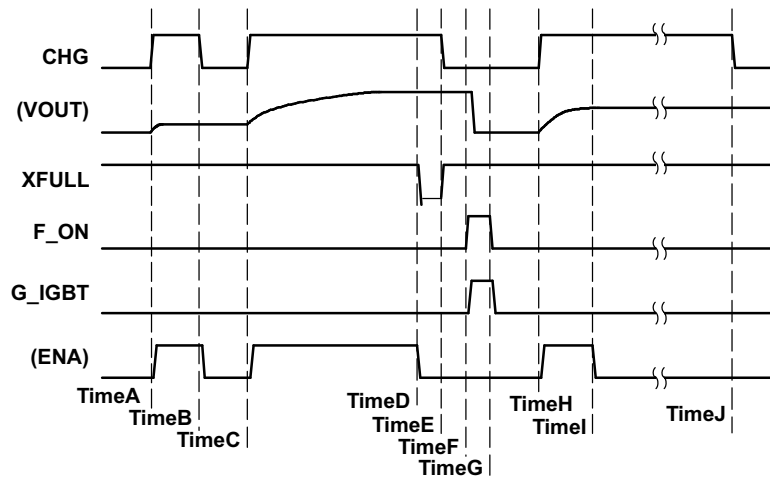

Figure 4. Whole Operation Sequence Chart
The only way to *start* charging is to input $\text{CHG}\hat{=}$ (see time A/C/H in Figure 4). Each time $\text{CHG}\hat{=}$ is applied, the TPS65560 starts charging.
1. Forced *stop* by inputting $\text{CHG} = \text{L}$ from the controller (see timeB in Figure 4).
2. Automatic *stop* by detecting a full charge. VOUT reaches the target value (see TimeD in Figure 4).
3. Protected *stop* by detecting an over current function (OV_{DS}) trigger at SW pin (see TimeI in Figure 4).
The device starts charging at *timeH*, and OV_{DS} protection occurs at *TimeI* (see Figure 4). At *TimeI*, XFULL stays H. At *TimeJ*, the controller detects OV_{DS} protection through the expiration of a timer ends and then sets CHG to low to terminate the operation.
The TPS65560 provides an overvoltage monitor function of the SW pin. The TPS65560 is latched off if the voltage on the SW pin is above OV_{DS} during the switch ON time (see Figure 4 and its descriptions).